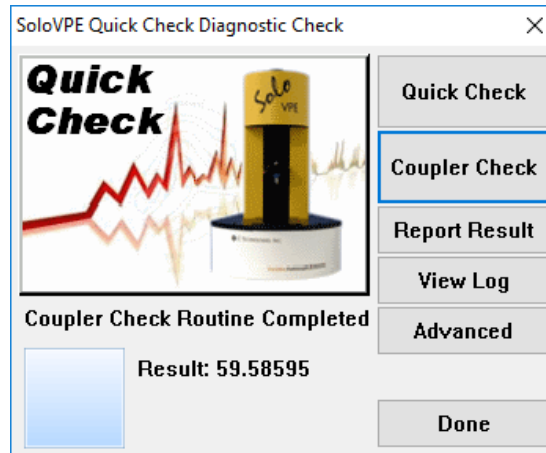

Figure 37. Quick Check Diagnostic Check window with Coupler Check results.
5. The results are displayed in the bottom left corner of the Quick Check Diagnostic Check window (see Figure 37). The user must visually analyze the result before moving on to Quick Check.